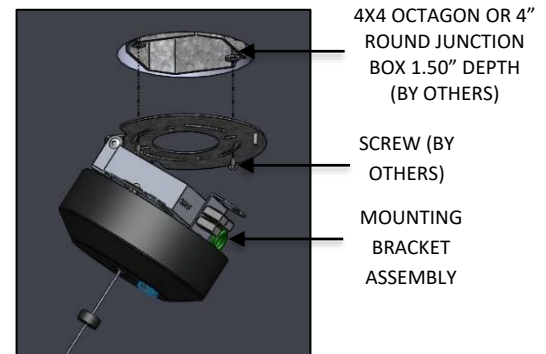

FIG. 8 – MOUNTING BRACKET
4. Attach MOUNTING BRACKET to JUNCTION BOX (by other) as shown below in FIG. 8.